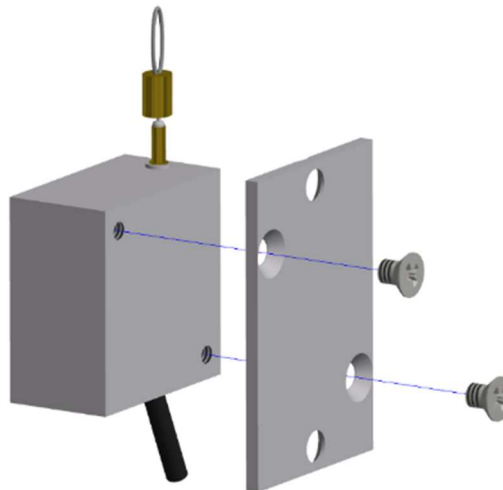

Figure 9-35. Install String Pot Mount Plate (474-5305) to String Pot Assembly (SA572-S90)
- 9.3.5 Install the Mini String Pot (SA572-S90) to the String Pot Mount Plate (474-5305) using two #2-56 X 1/8" FHMSF as shown in Figure 9-35.